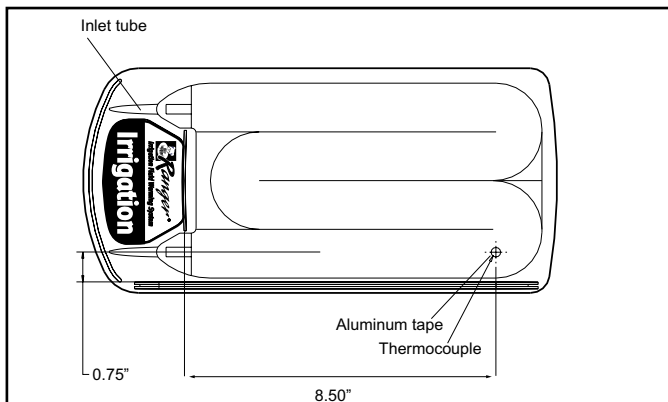

Fig. 1: Ranger Irrigation fluid warming cassette
1. Use aluminum tape to affix a thermocouple to the top surface of the Ranger Irrigation warming cassette as shown in Figure 1.